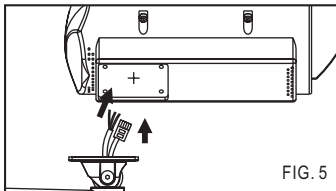
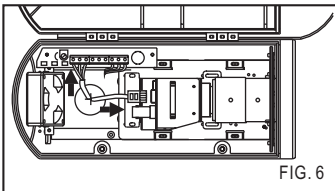

FIG. 5
FIG. 6
3. Put the power cable and RJ-45 network cable through the bracket rubber first and then go through the bottom of camera body (FIG.5). Plug and fix the power cable to the terminal and plug the RJ-45 network cable to RJ-45 LAN connector of the IP camera (FIG.6).